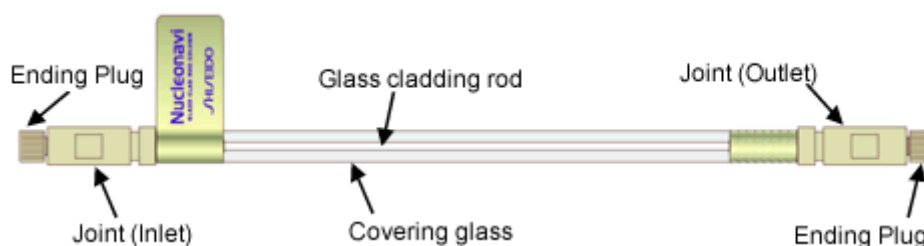

Fig. 1
4. If any liquid mass forms inside the cover-glass (see Fig. 1), stop operation immediately. There is a possibility that the glass rod may have ruptured. If the operation is continued, the glass cover might rupture and cause great danger.